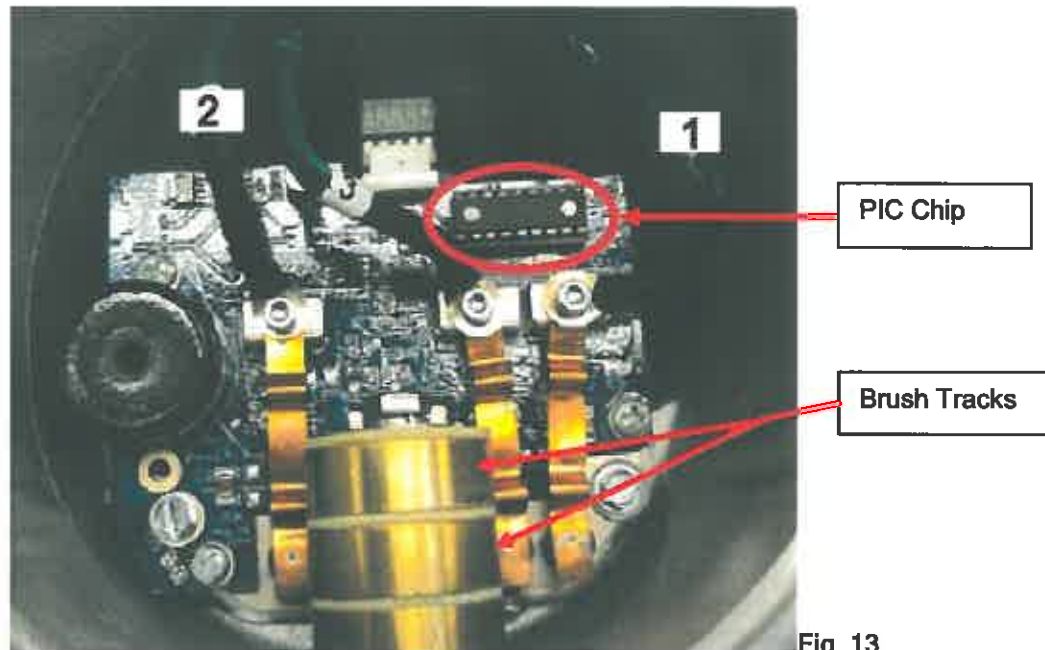

Fig. 13
40. Rotate the yaw shaft. Take a close look at each of the brushes to make sure they are properly contacting the appropriate slip ring. Make sure each spring is properly seated in the rectifier slot and that the brush wires are not being pinched. There will be fresh "brush tracks" on the slip rings. See Fig. 13. Also, make sure the slip rings are vertically aligned.
43. Orient the body as described in step 30. Using the three, small socket-head screws, connect the wires from the new alternator assembly in the following order from left to right on the circuit board: #2 - Left Terminal, #3 - Center Terminal, #1 - Right Terminal. Divert wires #3 & #1 around the PIC Chip. Do Not run the wires over the PIC Chip, this can cause malfunction. See Fig. 13 below for clarity. It is important that the three ring terminals are parallel and cannot contact one another once tightened. Torque spec for these bolts is 10 in-lbs.